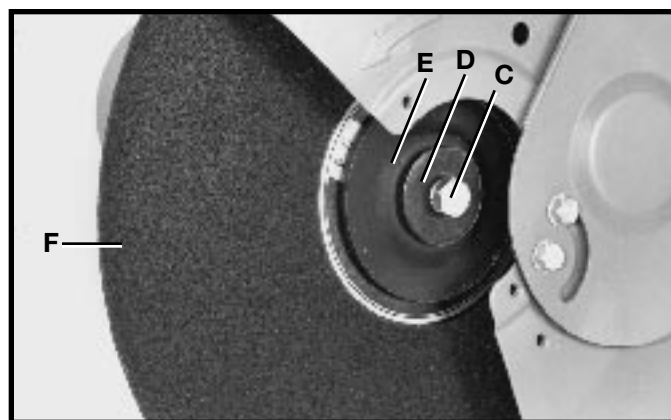

Fig. 25
4. Using the wrench provided, loosen arbor screw (C) Fig. 25, by turning it counterclockwise, and remove arbor screw (C), washer (D), outside wheel flange (E) and wheel (F). **DO NOT REMOVE INSIDE WHEEL FLANGE.**
6. Install new wheel (F) Fig. 25, outside wheel flange (E), washer (D) and arbor screw (C). Turn arbor screw (C) clockwise to tighten. **IMPORTANT: USE ONLY RECOMMENDED REINFORCED ABRASIVE WHEELS WITH BLOTTERS AND TIGHTEN THE ARBOR SCREW (C) ONLY ENOUGH TO HOLD THE WHEEL FIRMLY AND PREVENT WHEEL SLIPPAGE. EXCESSIVE TIGHTENING MAY RESULT IN DAMAGE TO THE WHEEL AND SPRINGING THE WHEEL FLANGES.**